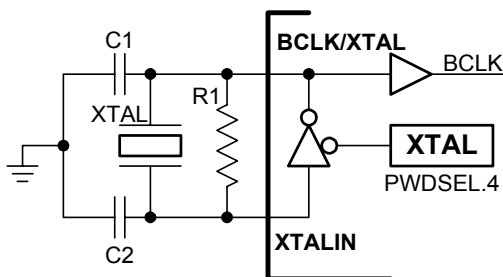

Figure 44. Crystal oscillator input.
2. A crystal oscillator amplifier—connected internally between the BCLK/XTAL and XTALOUT pins—supports 32 kHz operation and frequencies from 2 MHz up to 40 MHz, as shown in Figure 44. A crystal and the external circuitry listed in Table 29 generate the desired frequency. The crystal oscillator amplifier also supports ceramic resonators. The crystal oscillator output can be turned off during power-down mode by setting the XTAL bit (PWDSSEL.4). Frequencies above 24 MHz require the crystal to operate in the third overtone. The crystal operates in its fundamental mode at lower frequencies. The internal feedback resistor should also be enabled using the FastChip development system.